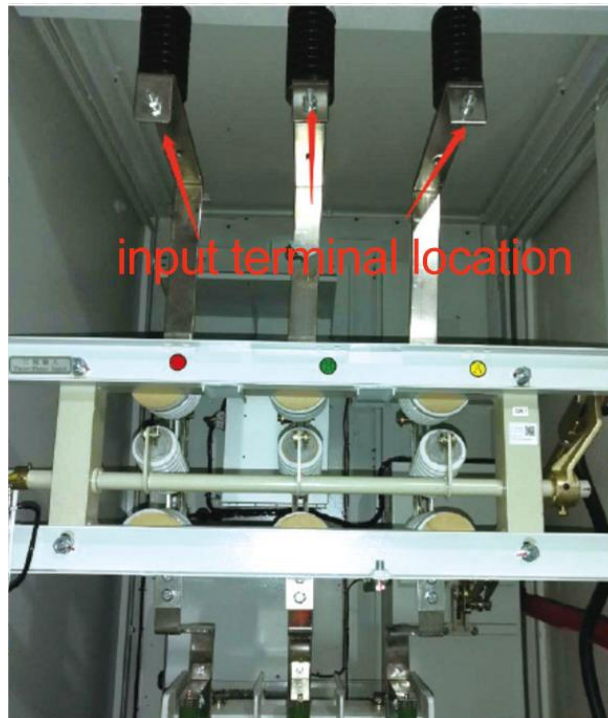

Figure 6.8 Three-phase main cable connection terminal
- Make sure the input cable is connected to the terminal marked "3-phase input" at the rear of the control cabinet as shown in Figure 6.8.